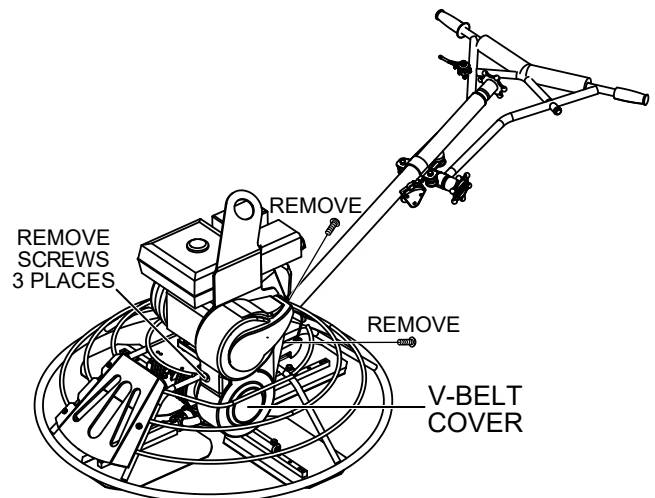

Figure 2. Remove V-Belt Cover
1. Using a flat-blade screwdriver, remove the 3 retaining screws securing the V-belt cover (Figure 2) to the frame.